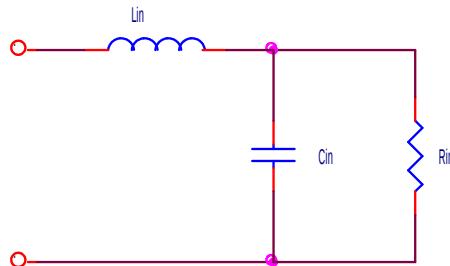

Figure 1: Replacement diagram at ballast's control terminals
- Impedance control terminals (see Figure 1): $R_{in} \geq 8 \text{ Kohm}$ static at typical high input voltage